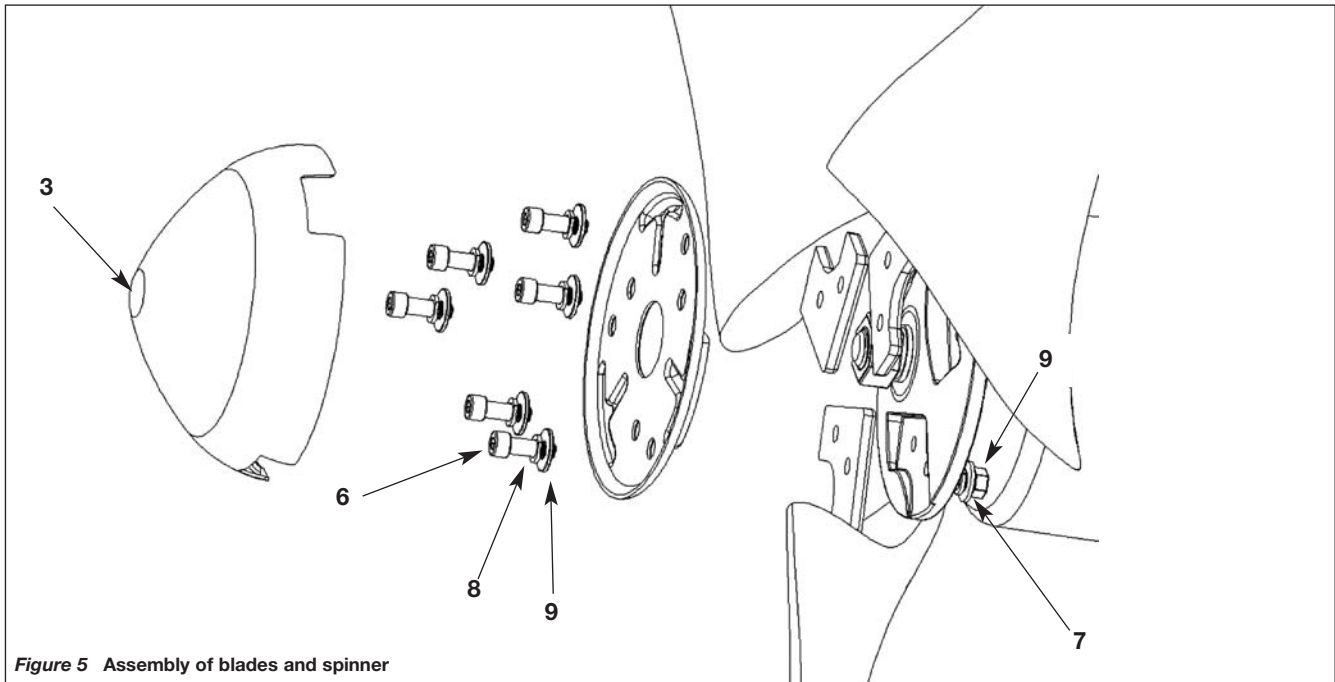

Figure 5 Assembly of blades and spinner
(1) Fasten the three blades into the circular hub using two 12mm-diameter, 60mm-long bolts for each blade. To refer Figure 5, firstly put one spring washer through the bolt, follow by one flat washer, insert them through the blade and hub, put another spring washer through the protruding part of the bolt, apply Loctite to the thread, and fasten with a nut. Press the spinner into the hub.